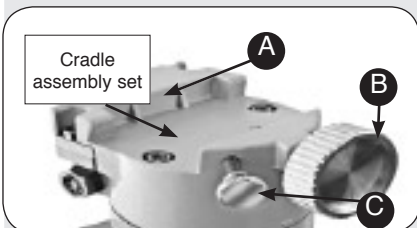

Fig. 7: Mounting the cradle assembly to the mount shaft (EXOS2)
7. Attach the cradle assembly to the mount – Models R and N: Remove the optical tube from the cradle and slide the cradle assembly (11, Fig. 1a) onto the cradle mounting slot. See Fig. 7. The rounded base of the cradle assembly fits into the rounded portion of the mounting slot. Tighten both the cradle locking knob and the secondary locking knob to a firm feel.